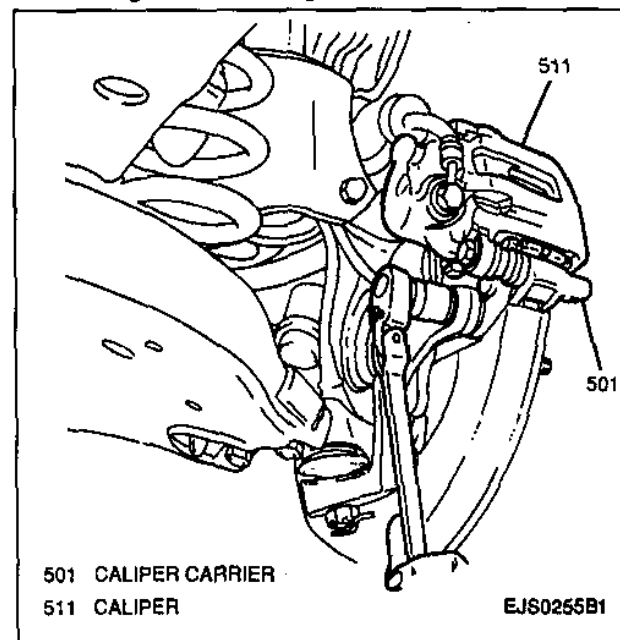

Figure 12—Removing Caliper/Caliper Carrier as an Assembly
6. Two caliper carrier mounting bolts (Figure 12).